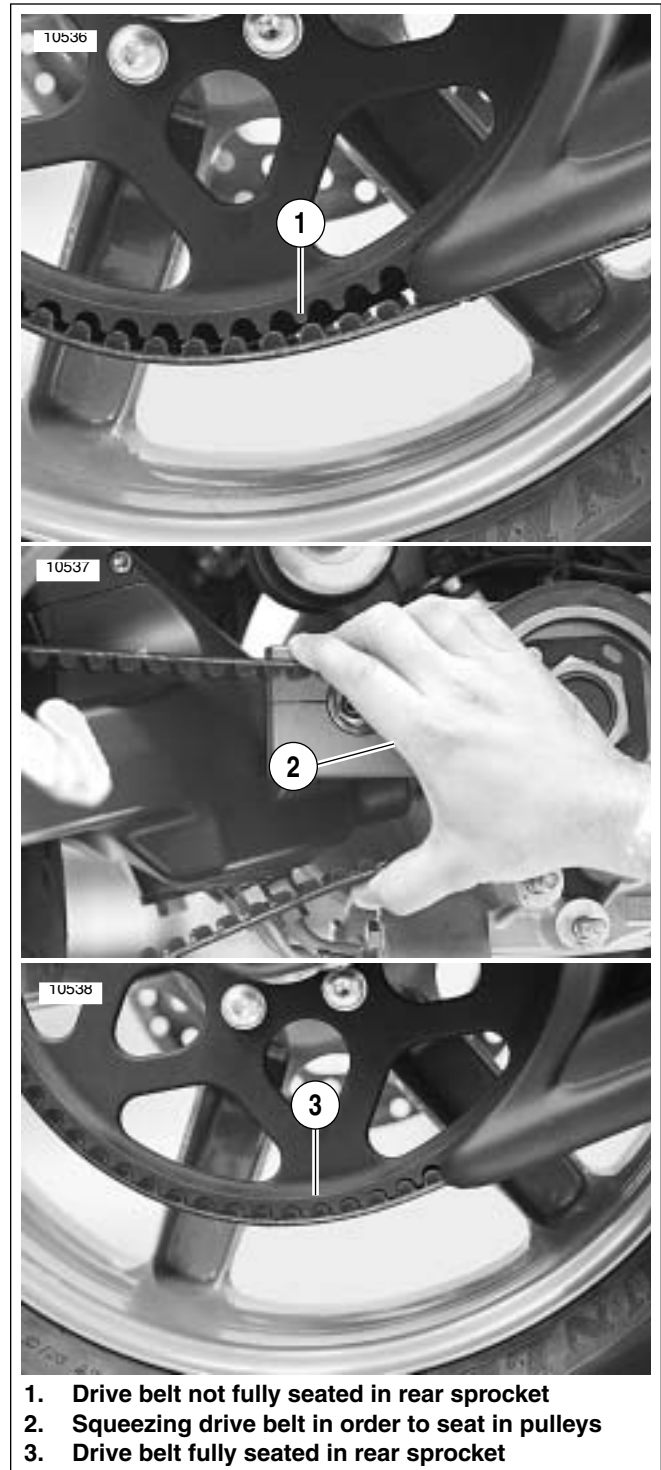

Figure 6-42. Seating Drive Belt Into Pulley Teeth
See Figure 6-42. Occasionally the drive belt is not fully seated in rear sprocket making it difficult to install the idler pulley. It will be necessary to follow the outlined procedure in order to easily install idler pulley.
3. See Figure 6-42. Grasp top and bottom of drive belt and squeeze together until belt teeth are fully seated in rear sprocket.